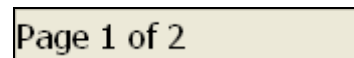

Figure 8
14. A window at the bottom of the screen will tell you how many pages there are to the report and which page you are currently on (Figure 8).